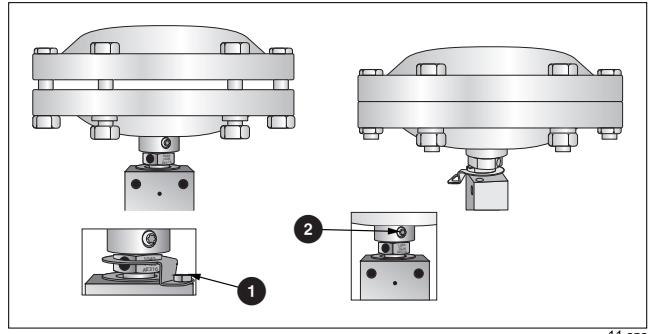

Figure 10. Tightening Nuts, Bolts, Set Screw and Retaining Nut
6. Install all nuts and bolts on the valve. Do not tighten the set screw (Figure 10, ①).
7. Place the valve back into the RUSKA 7615. Rotate the valve for the correct fit and tighten the set screw and install the retaining nut (Figure 10, ②).